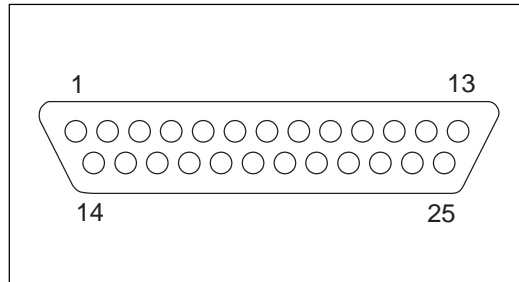

Figure 2. RS-232 & EIA530 Connector (ISO 2110), DTE Connector  $\sigma$  DB-25 Male, DCE Connector  $\sigma$  DB-25 Female
8. Figure 2 shows a RS-232 & EIA530 DB-25 Connector.